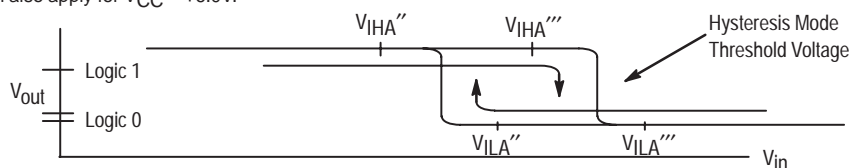

Figure 1. Hysteresis Mode Threshold Voltage
- Output latched to logic high state prior to test. V_{IHA} , V_{ILA} are standard logic 1 and logic 0 M TTL threshold voltages. V_{IHA}' , V_{ILA}' , V_{IHA}'' and V_{ILA}'' are logic 1 and logic 0 threshold voltages in the hysteresis mode as shown in Figure 1 on page 301.
2. Output latched to logic high state prior to test. V_{IHA'}, V_{ILA'} are standard logic 1 and logic 0 MTTTL threshold voltages. V_{IHA''}, V_{ILA''}, V_{IHA'''} and V_{ILA'''} are logic 1 and logic 0 threshold voltages in the hysteresis mode as shown in Figure 1 on page 301.